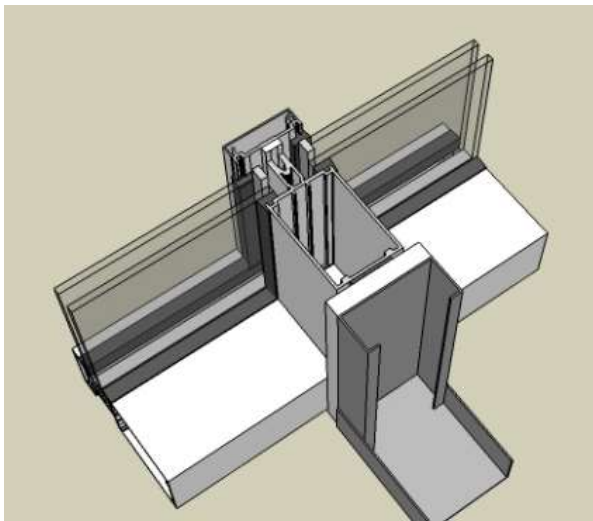

Figure 2: Install end stud with board attached
5. Remove release liner from side facing partition, place in position (Fig. 2) and set firmly in place applying continuous pressure. A brayer is recommended.